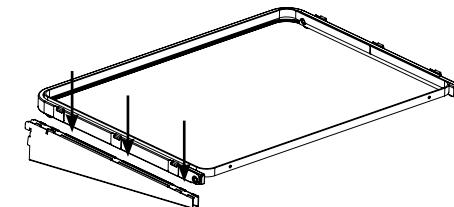

Figure 2
STEP 4: Install the surround assembly by inserting the six shelf tabs into the slots on the shelf brackets (**Figure 2**).